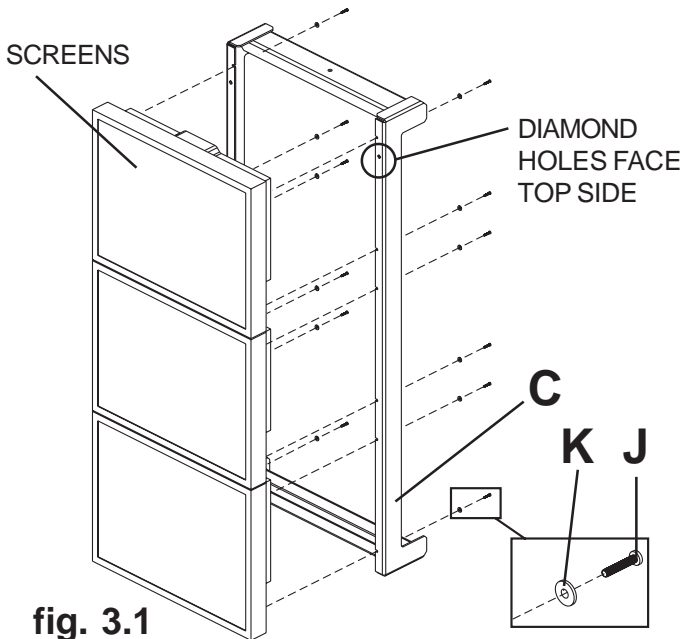

fig. 3.1
3 Attach three screens to one vertical rack (C) using twelve M3 x 16 mm phillips screws (J) and twelve #10 flat washers (K) as shown in figure 3.1. Repeat for remaining screens and vertical rails (C).